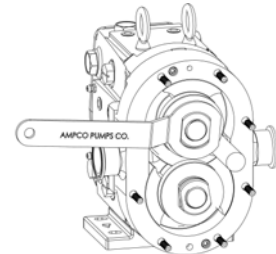

Figure 25: Removing Rotor Jam Nuts
3) Remove the rotor jam nuts using the wrench provided by Ampco (Figure 25). Remove one at a time, by striking wrench with a soft mallet to break loose then turning counter clockwise. The nuts are made of a non-galling alloy to prevent from locking up on the shaft.